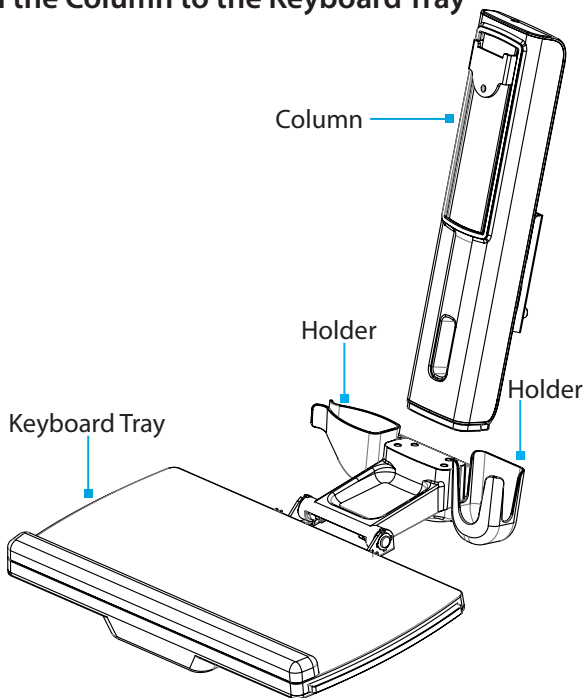

Figure 11
2. Align the **Assembly Holes**, located on the bottom of the **Column**, with the **Assembly Holes**, located between the **Holders** on the **Keyboard Tray**. (Figure 11)